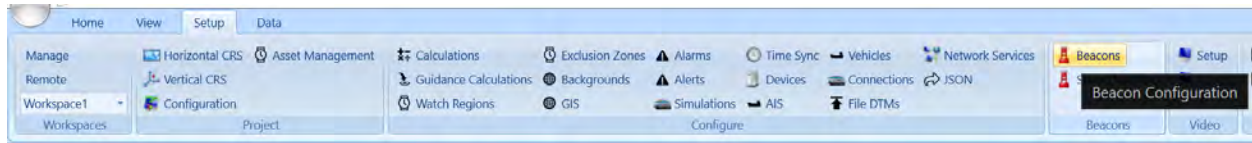
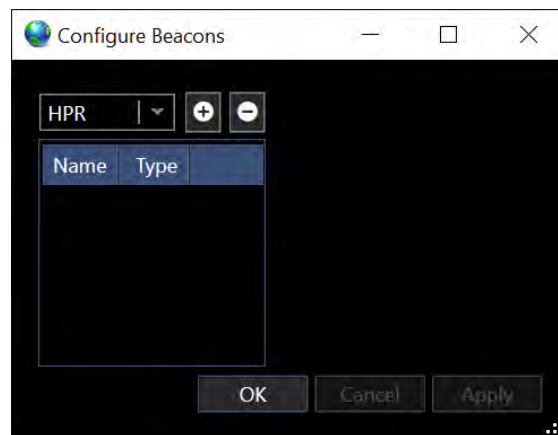

FIGURE 17-1 SETUP RIBBON – BEACONS
FIGURE 17-2 CONFIGURE BEACONS DIALOG
1. From the Setup ribbon, click the Beacons icon (see Figure 17-1) to open the Configure Beacons dialog (see Figure 17-2)
1. Open the Beacons File Dialog (see Figure 17-2)